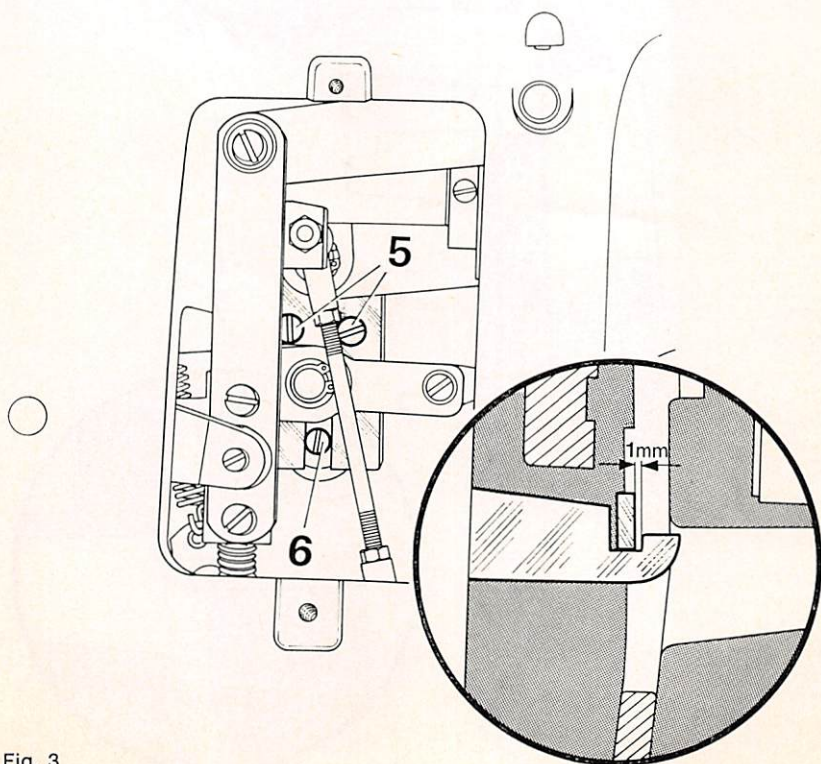

Fig. 3
**3. Adjusting the starting latch (Fig. 3)**
- 3.5. Turn eccentric stud **6** until there is a clearance of 1 mm (0.04") between starting latch and locking lever (see encircled view in Fig. 3).